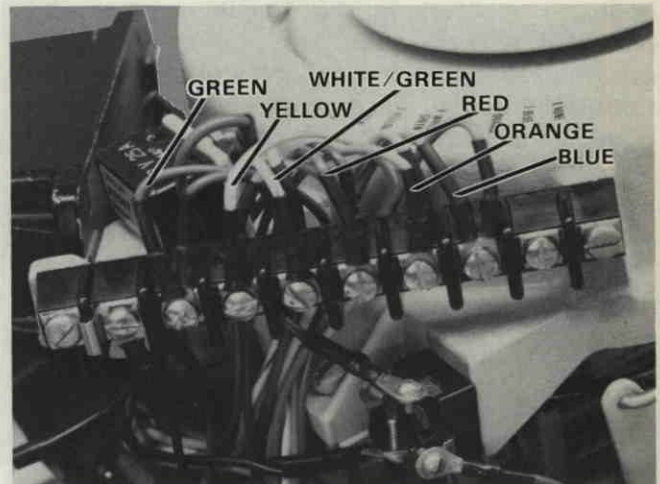

Figure 18. Connecting C-D Leads to Terminal Block.
4. Route remaining lead wires up behind terminal block and connect to terminal block as follows: #2 green, #3 yellow, #4 white/green stripe, #5 red, #6 orange, #7 blue, Figure 18.